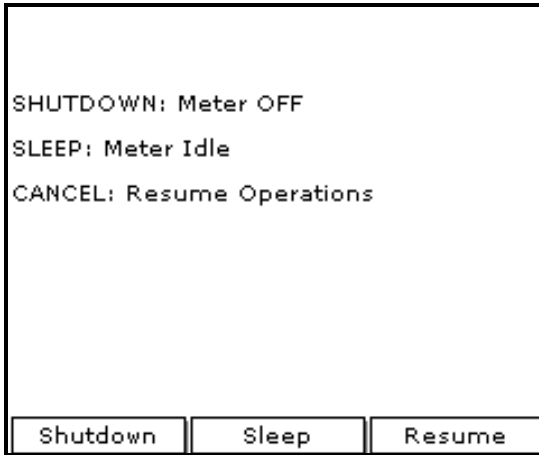

Figure 2: Shutdown Menu
1. To turn the PM880 off, press the red key for 3 seconds. The screen now appears similar to Figure 2.